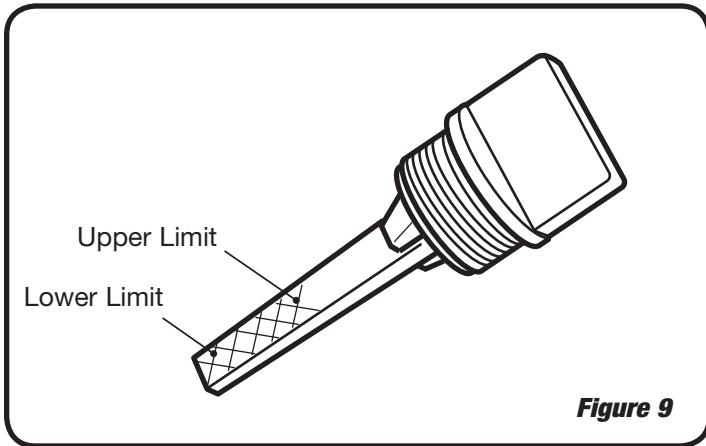

Figure 9
1. Check oil level each time before starting engine. Check oil level daily or every eight (8) hours of operation. Keep oil level at UPPER LEVEL on dipstick (See Figure 9).
5. Oil level should be at UPPER LEVEL on dipstick. See Figure 9.